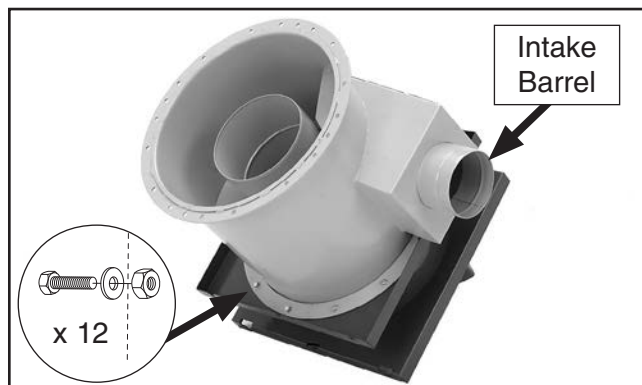

Figure 10. Securing blower on intake barrel.
8. Attach intake barrel to blower housing, as shown in **Figure 10**, with (12) $\frac{5}{16}$ "-18 x $\frac{3}{4}$ " hex bolts, (12) $\frac{5}{16}$ " flat washers, and (12) $\frac{5}{16}$ "-18 lock nuts.